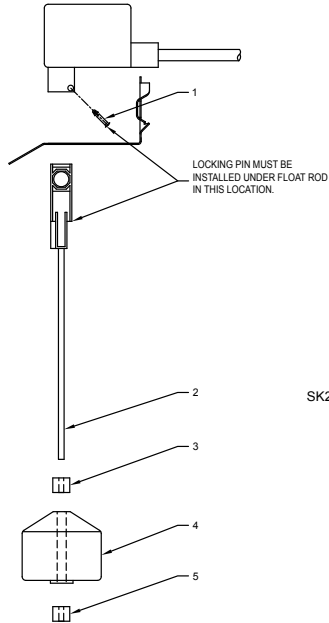

Figure 3.1
- 3.1) Assemble switch as shown in Figures 3.1 - 3.3.